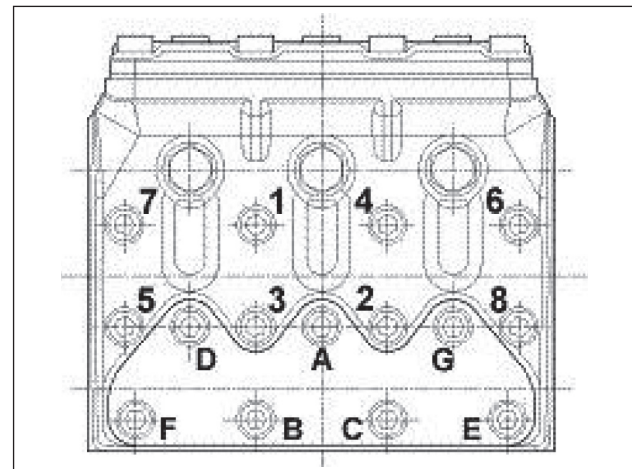

Fig. 24
** The head fixing screws must be tightened with a torque wrench, lubricating the underhead, respecting the order in Fig. 24.
*** The valve cover fixing screws must be tightened with a torque wrench, lubricating the underhead, respecting the order in Fig. 24.